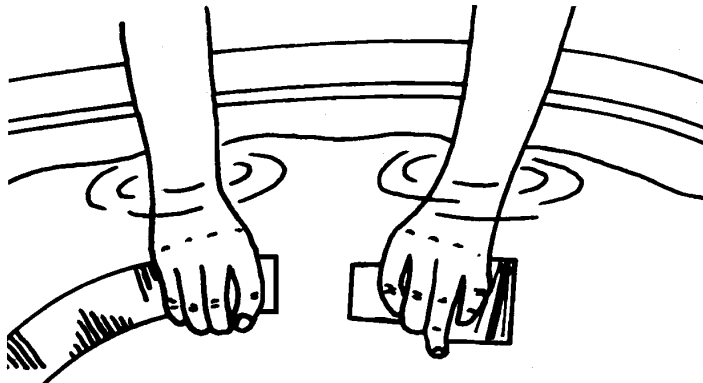

Figure 1
- Attach the Pool Pulse® to the hose and keep it under water as shown in Figures 1 and 2.